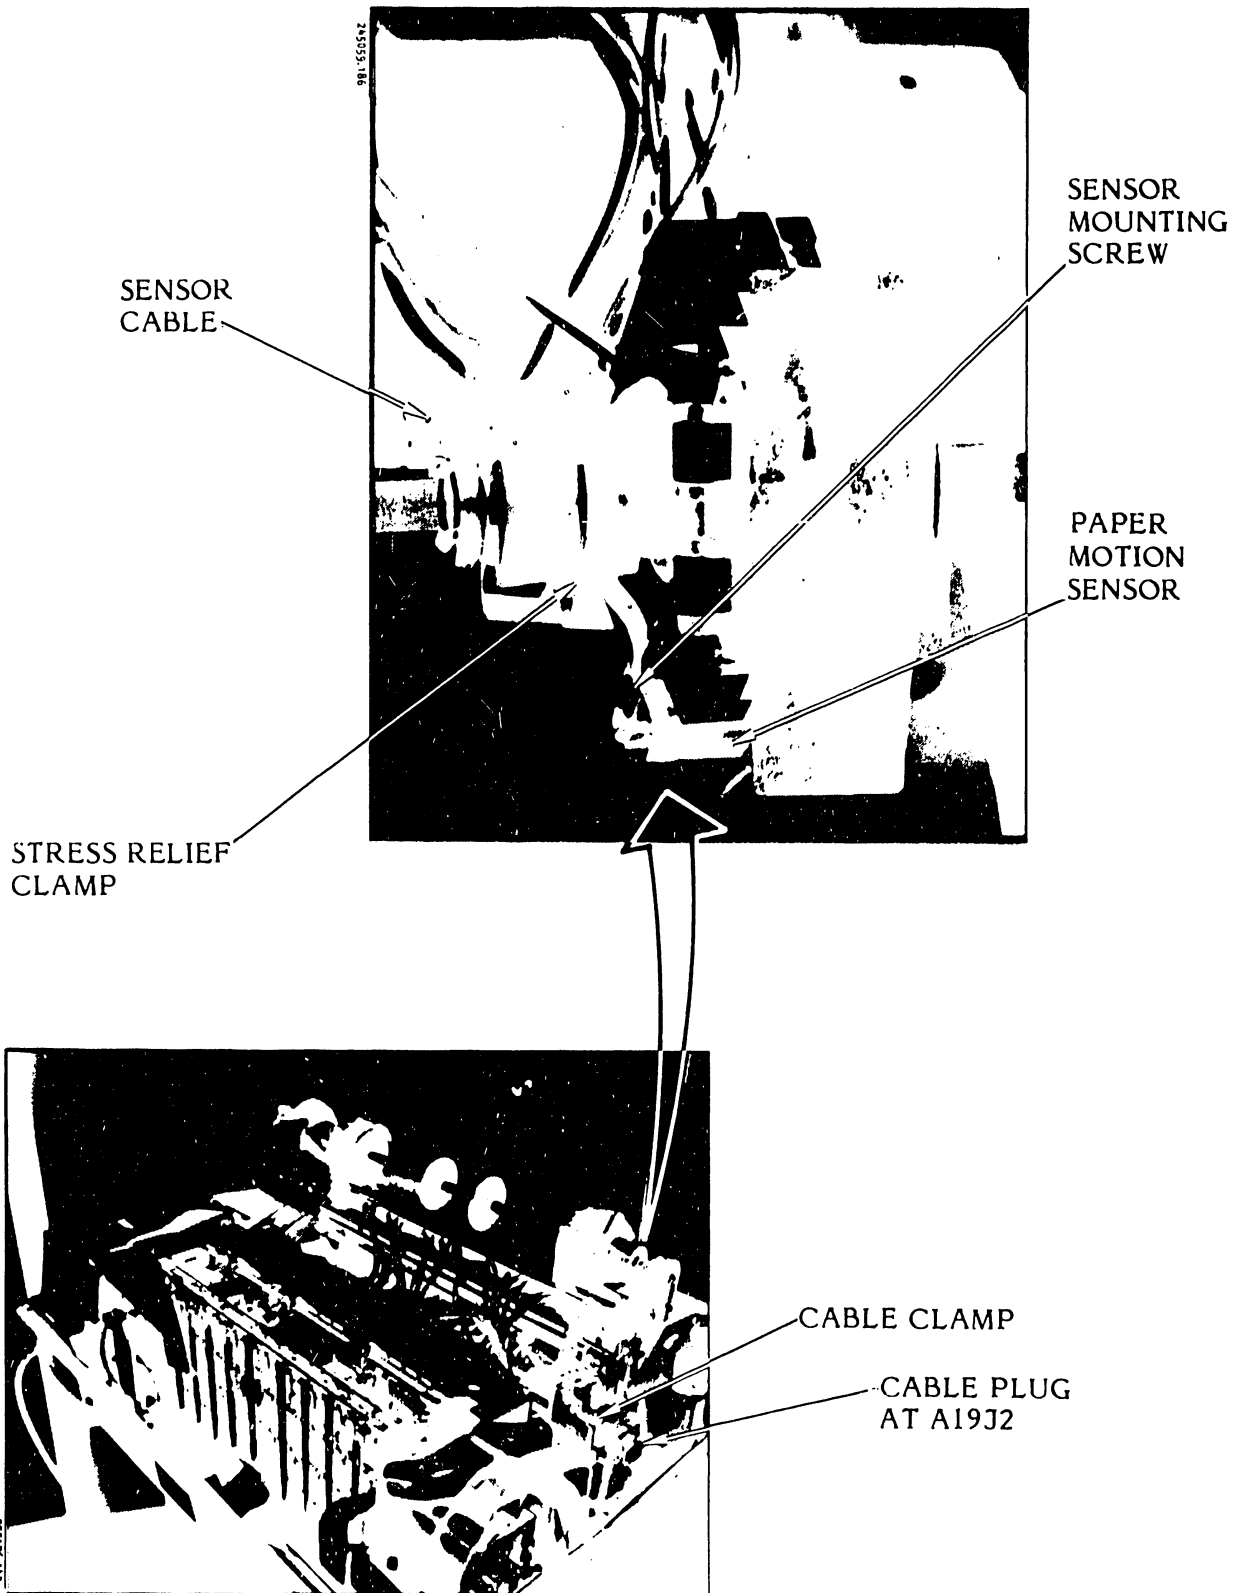

Figure 3-119. Paper Motion Sensor Assembly Removal/Installation
3.7.48 Paper Motion Sensor Assembly Removal/Installation (Figure 3-119)
- d. Unplug the paper motion sensor cable from the Interlock Transition CCA at A19J2 (see figure 3-119).
- g. Use a 4.5 mm nut driver to remove the stress relief clamp screw and sensor mounting screw (see figure 3-119).